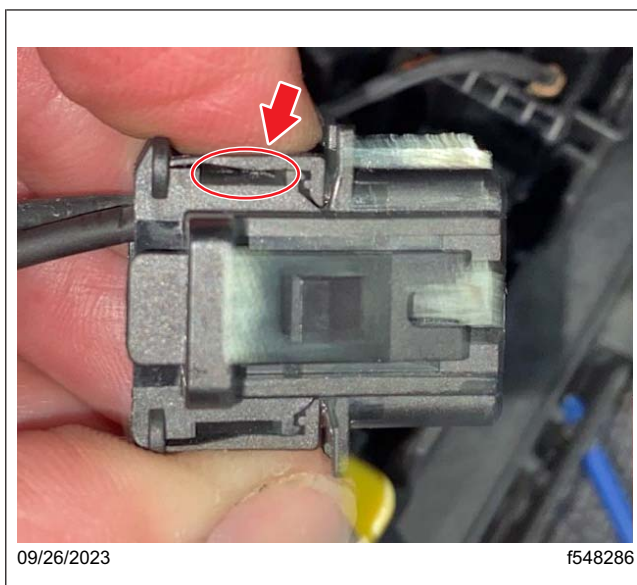
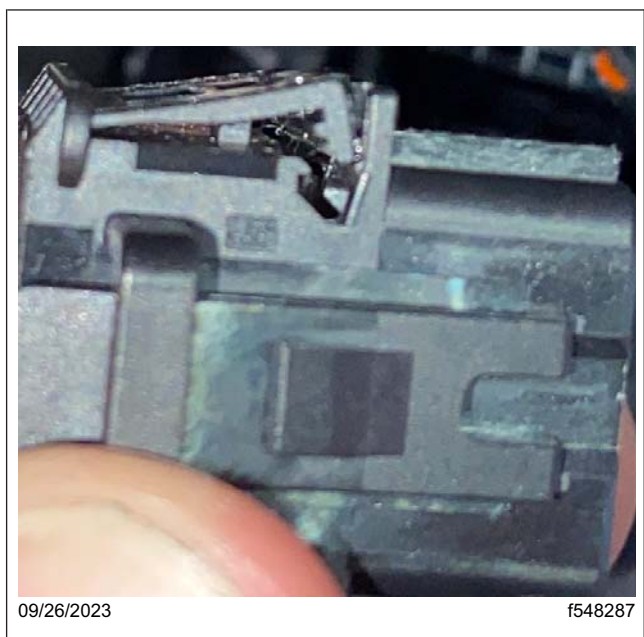

Fig. 18, SSAM X10 Connector Locking Tab
Fig. 19, SSAM X10 Connector Locking Tab in the Unlocked Position
9.3 Gently pry the locking tab with a small flat screwdriver in the location, shown in Fig. 18, to unlock the side of the connector that coincides with pin 1. Figure 19 shows the tab in the unlocked position.